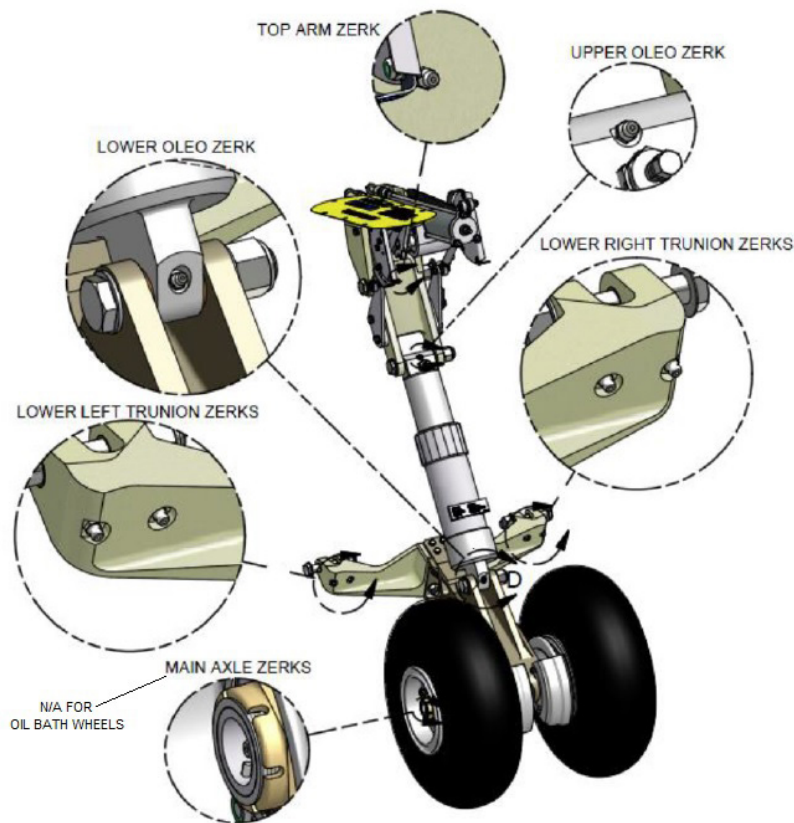

FIGURE 4-3: MAIN GEAR GREASING POINTS
There are several service points on the main landing gear to pay attention to during maintenance. Grease zerks are located on the pivots of the main gear draglinks, each wheel axle, top and bottom pivot points on the oleo-pneumatic shock strut, and the rotation point of the top arm assembly, see figure 4-3. The adjustable rod end bearings are permanently sealed and do not require servicing. Inspect the rod ends for freedom of movement and corrosion. Replace the rod ends when necessary. Depending on the operating environment, greasing requirements may vary. Highly corrosive environments, such as salt water, may require more frequent inspections. Regardless, the gear should be inspected visually at least every 25 hours for cleanliness and proper lubrication.
Note: If replacing any of the (4) bushings located within the pivot arm which are serviced by the trunion zerks (see Figure 4-3), the internal grooves must be aligned to the zerk fitting and a grease hole must be drilled into the bushing after insertion.